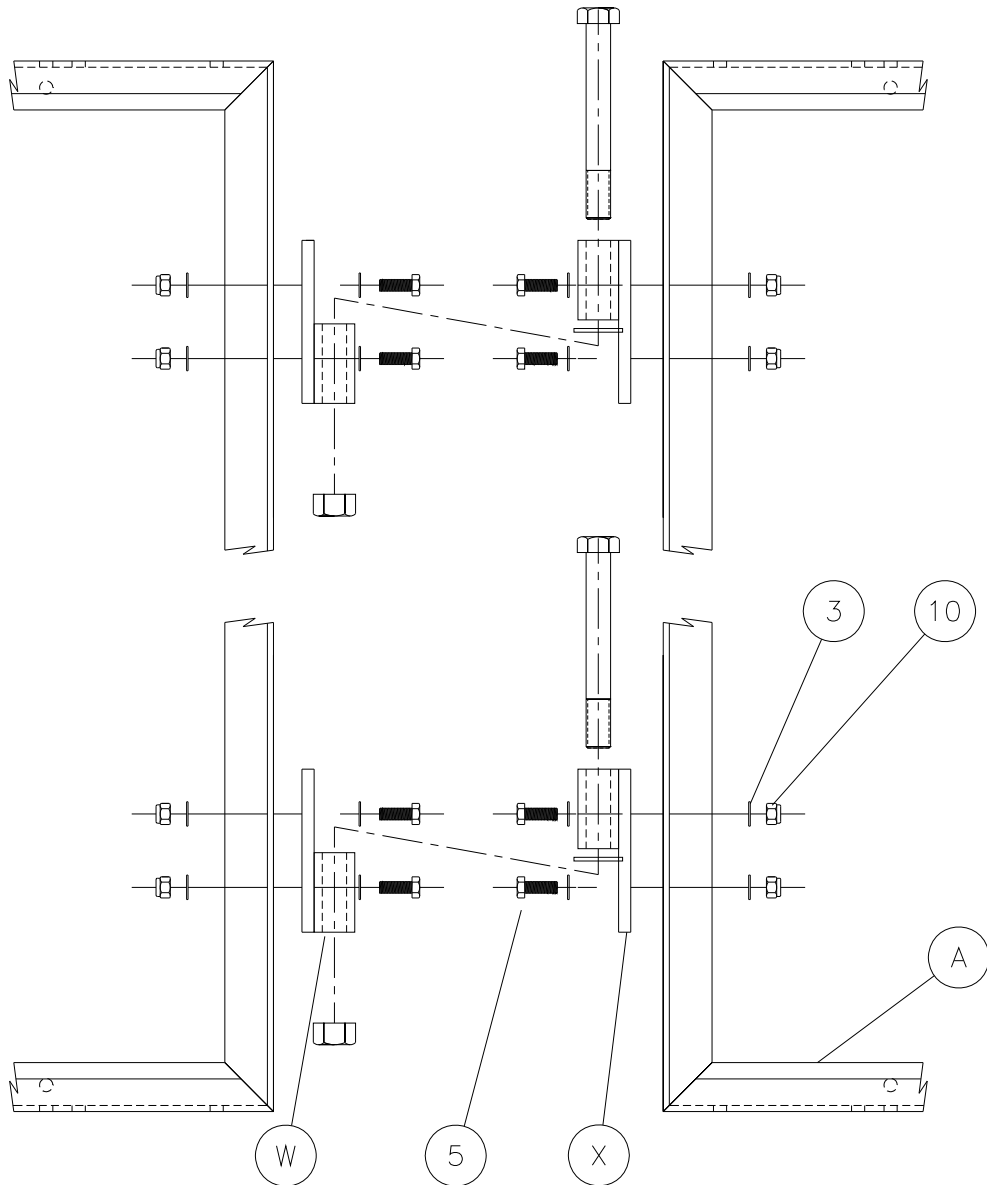

Figure 3-4
1. (Refer to Figure 3-4) By using two of the floating dock hinge assemblies, the dock frames can be attached in any configuration, regardless of orientation. Part 1 (W) and part 2 (X) of the hinge have holes that are opposite, which allows them to attach at any connection points on the dock frames.
2. Attach hinge parts 1 and 2 to the dock frame sections using the supplied hardware. (Refer to Figure 3-4). Align holes of hinge part 1 (W) and part 2 (X) with holes in dock frames, and attach each part using four each 3/8" hex head cap screw (5), 3/8" hex nylock nut (10), and eight each 3/8" flat washer (3). Tighten all hinge halves securely.